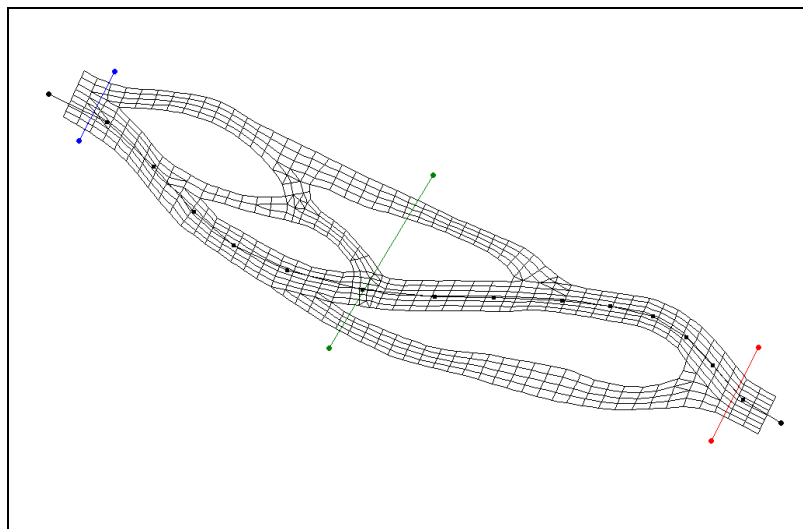

Figure 17-6 Profile and cross-section arcs
- Create an arc down the main channel, as shown in Figure 17-6. Remember to double-click the last point to end the arc. Be careful NOT to click on any observation points. If you do, the points are joined to the arc.
2. Create each of the cross section arcs, as shown in Figure 17-6. Note: When creating these, DO NOT click ON the profile arc, as this would split it.